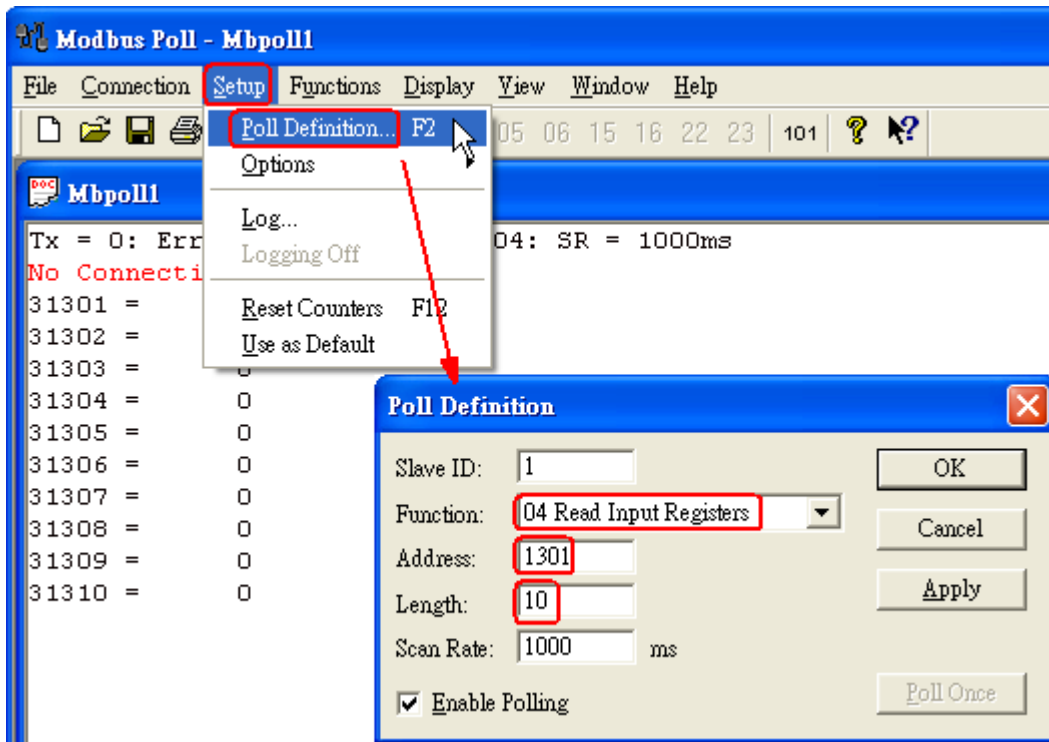

Figure 3-5 Modbus Parameters of “Modbus Poll” tool
- [1] In firmware v1.5 or newer, HRT-710 provides the MB Address **1300 ~ 1459 (Default CMD(3)(S) Data for Module 0 ~ 15 in HRT-710 =>** The detailed information refers to the sector 4.3 of users' manual) and users can map the CMD(3) data of HART device to SCADA directly with these Modbus address 1300 ~ 1459.
- [2] For the **“Default CMD(3)(S) data of Module 0”** in HRT-710, the mapped MB address is **1300 ~ 1309**. The below MB/RTU client will use the **“Modbus Poll”** tool to show the CMD(3) data of HART device by polling Modbus address 1300 ~ 1309.
- <2> Set the **“Modbus”** parameters like Figure 3-5.